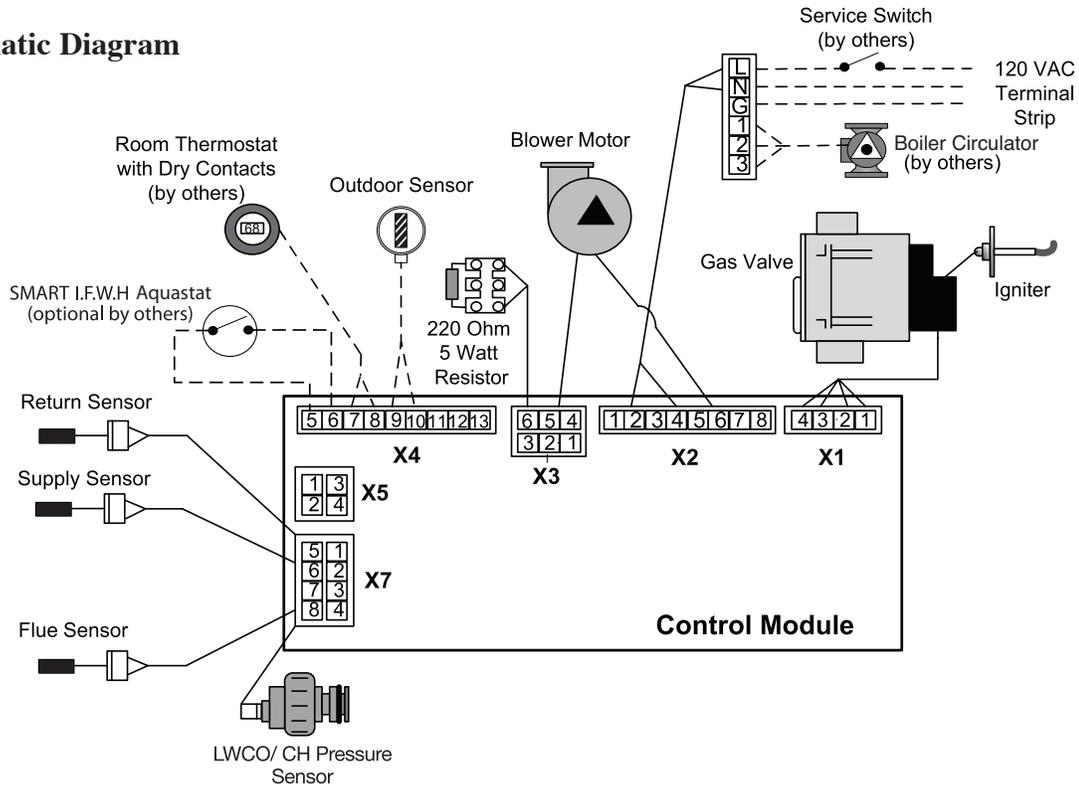
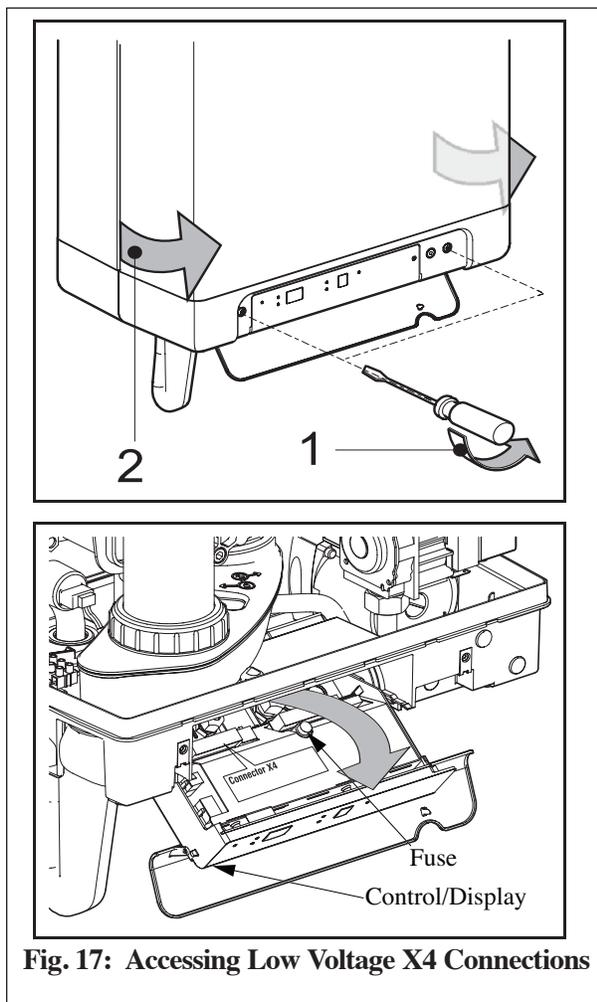

Fig. 16: CHALLENGER Factory Wiring Diagrams
Fig. 17: Accessing Low Voltage X4 Connections
1. Connect a 120 VAC/15A service to the 120V terminals L, N and G inside the CHALLENGER as shown in Fig. 16, page 27.
1. Connect room thermostat or the end switch (isolated contact only) to the low voltage terminal strip on the drop down control panel, as shown in Fig. 16, page 27 and Fig. 17.
1. Connect the CH primary circulator to the CHALLENGER 120 V terminals 1,2 and 3 located inside the appliance as shown in Fig. 16, page 27.